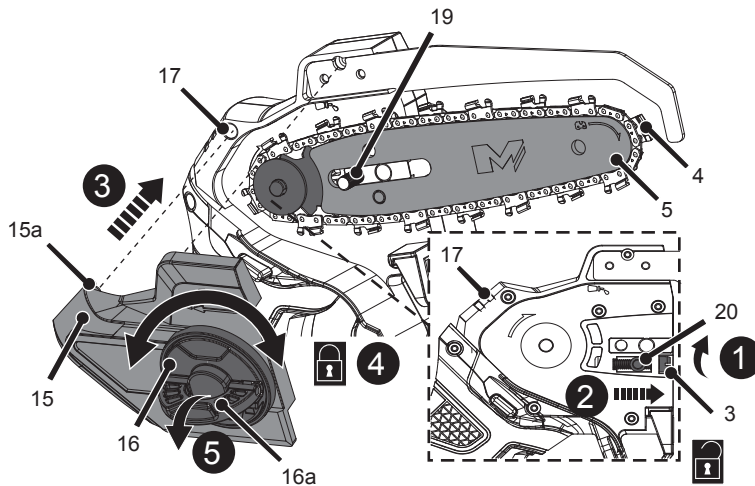

Fig. 4
6. Screw the tension screw (3) clockwise out to adjust the tension pin (20) / guide bar (5) towards the right to tighten the saw chain (4) using the supplied multi-tool (24) (Fig. 4, steps 1, 2).
7. Align the spigot (15a) with the location hole (17) and place the sprocket cover (15) over the mounting bolt (19) (Fig. 4, step 3).
8. Refit the sprocket cover (15) and slightly tighten the locking wheel (16) clockwise (Fig. 4, step 4). Ensure that the spigot (15a) engages correctly in the location hole (17). Do not tighten the locking wheel (16) completely as saw chain tensioning is required first.
9. Place down the ring handle (16a) on the locking wheel (16) afterwards (Fig. 4, step 5).